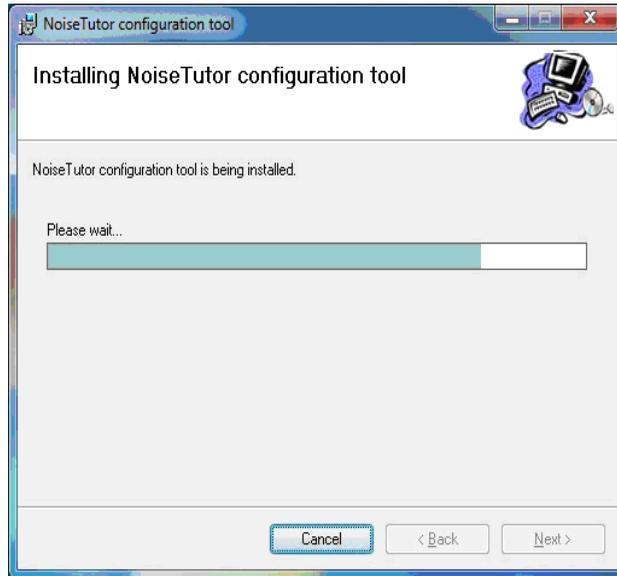

FIGURE 2-19 Configuration Tool - Installing NoiseTutor Configuration Tool
Step 7 To confirm the installation, click **Next** again. The wizard displays the installation progress as shown in FIGURE 2-19.